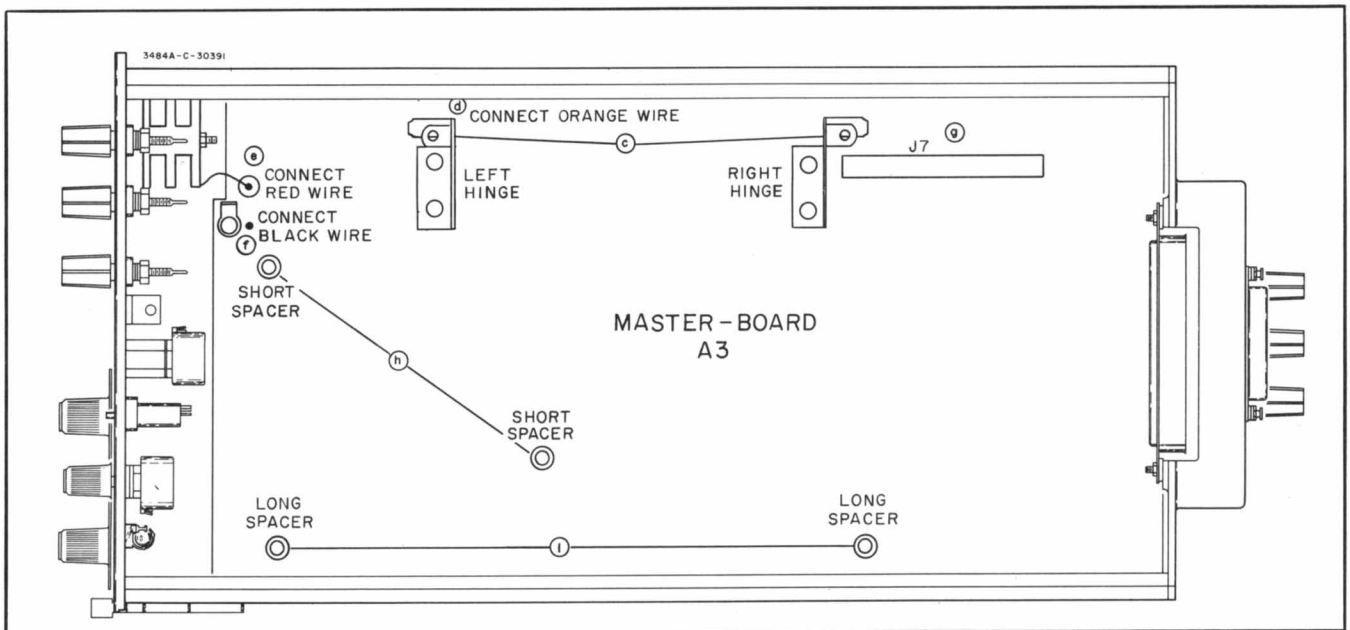

Figure 2-1. AC Converter Installation.
- b. With 3484A turned upside down, position ac converter assembly component side down over the hinges on the master board A3. See Figure 2-1. The converter input and output wires are on the hinge side of the assembly.
- d. Connect orange output wire to teflon connector in master board between left hinge and edge of board. See Figure 2-1.
- e. Connect red input wire to pin mounted in teflon insulator near front edge of master board as indicated in Figure 2-1. This pin is connected through a red wire to terminal switch.
- f. Connect black ground wire to pin on master board next to ground lug. (Figure 2-1.)
- h. Some 3484A units may be provided with two short spacers mounted in the master board at positions indicated by (h) in Figure 2-1. If these spacers are present, remove nuts from the screws projecting up through the converter assembly shields. Rotate the assembly to the horizontal position and fasten in place by inserting the two screws into short spacers.